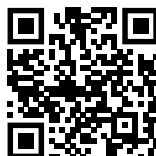

Fig. 128
- Åbn Liebherr SmartMonitoring Dashboard. (se Fig. 128)